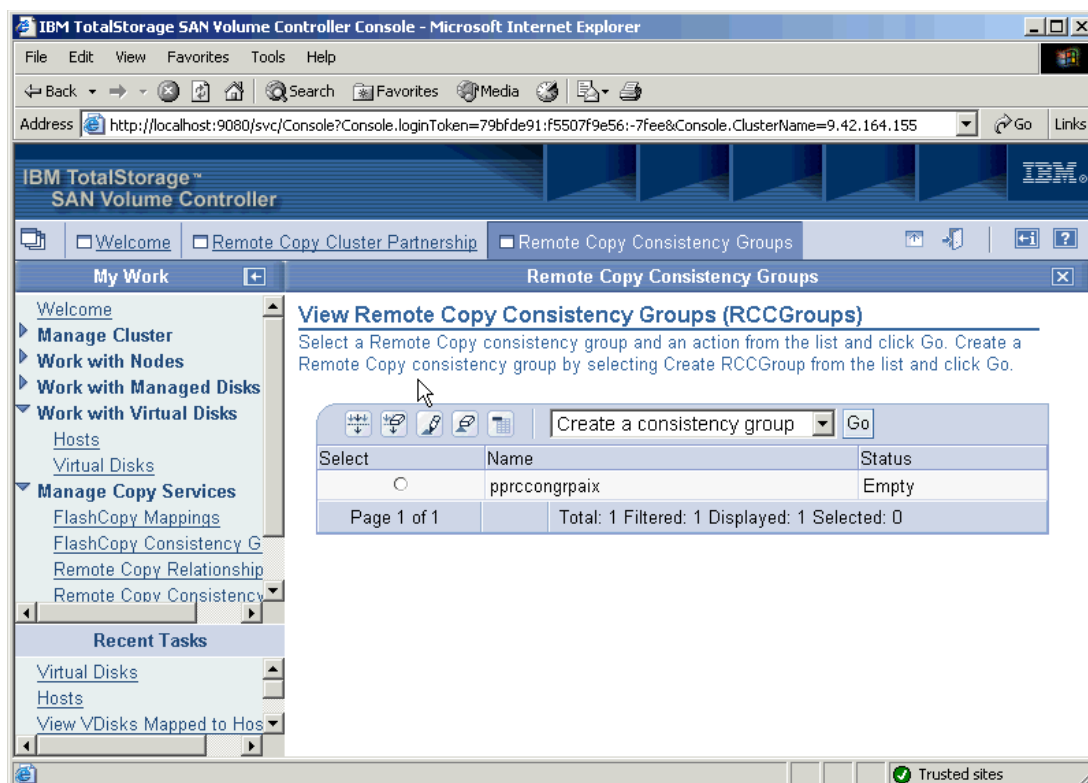

Figure 11-16 Creating a PPRC consistency group pprcongrpaix done
- On the View Remote Copy Consistency Groups panel (Figure 11-16), verify the PPRC consistency group.